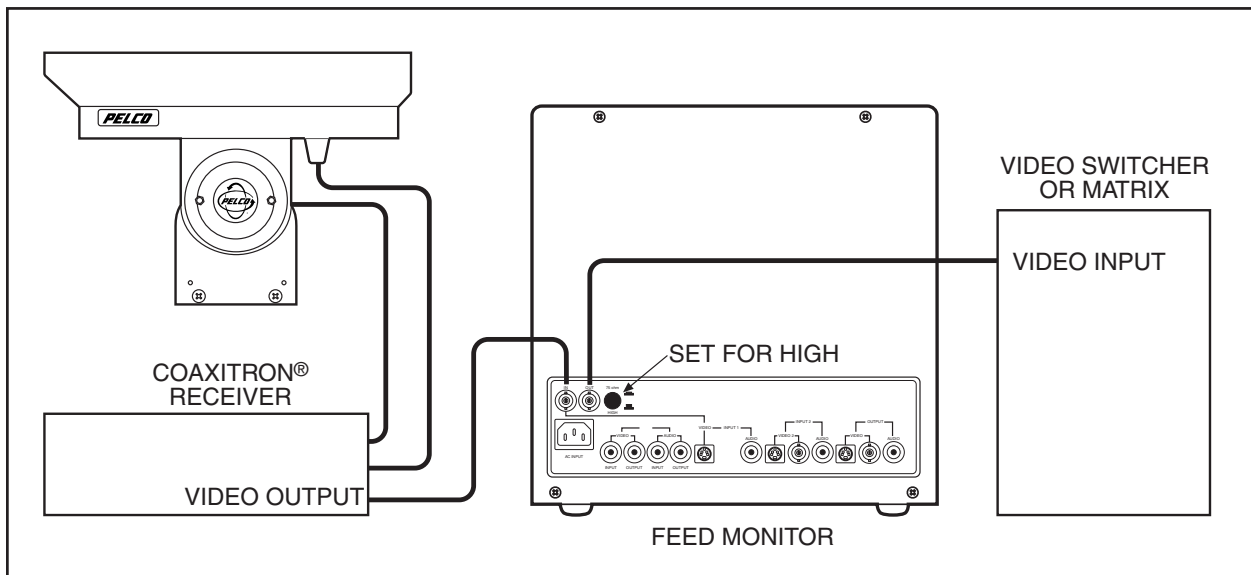

**Figure 3.** Input from Switcher or Matrix Control System
1. Refer to Figure 3. Connect the video output from the video switcher or matrix control equipment to Input 1 or Input 2 on the output monitor.